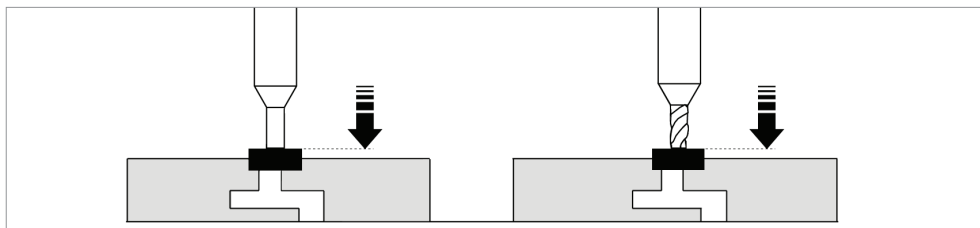

Fig. 18
- 8) Hold the lever (J) tight, turn the central nut (N) anticlockwise until the cutter skims the key in the right-hand clamp (Fig. 18). Release the lever (J) and turn off the motor.
- 9) Hold nut (N) still and lock the bottom nut (H2).